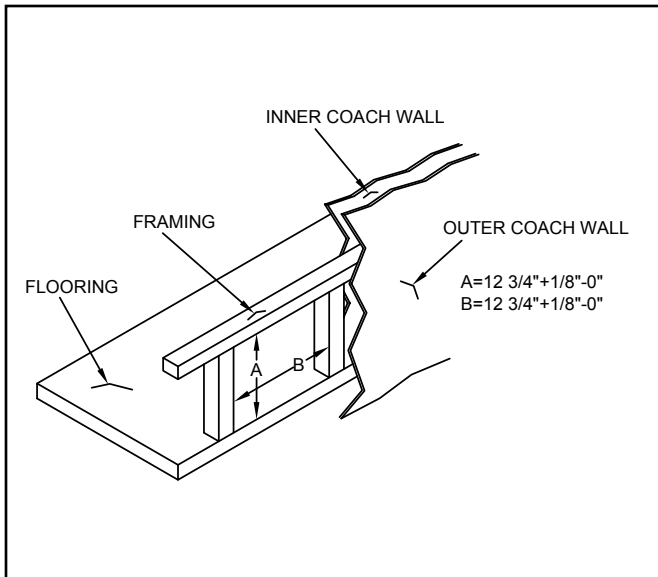
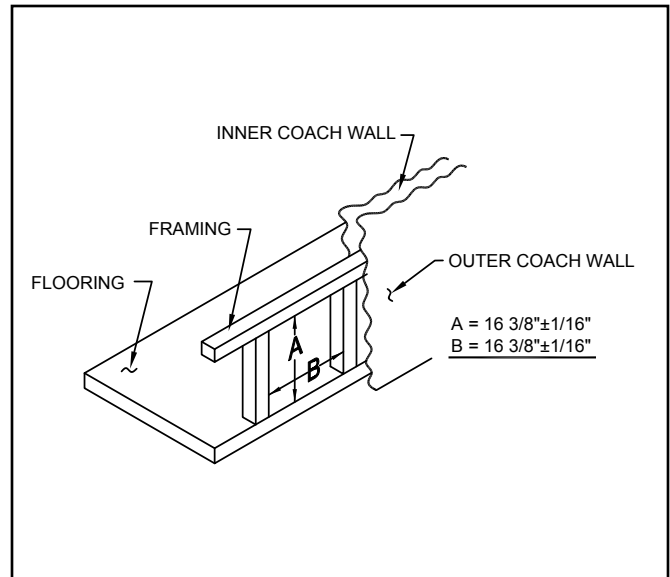

Figure 1
Figure 1A
Provide an opening flush with floor in outer wall of coach as shown. Wall of coach should be framed as shown in Figure 1 SW6DEL; Figure 1A SW10DEL/SW12DEL/SW16DEL. Maintain inside dimensions listed below. Do not install on carpet unless the carpet is covered by a metal or wood shield covering the entire area underneath the water heater. If you prefer, you may cut away the carpet from this area.
H. Install chocks, one on each side of water heater, as illustrated in Figure 1A.